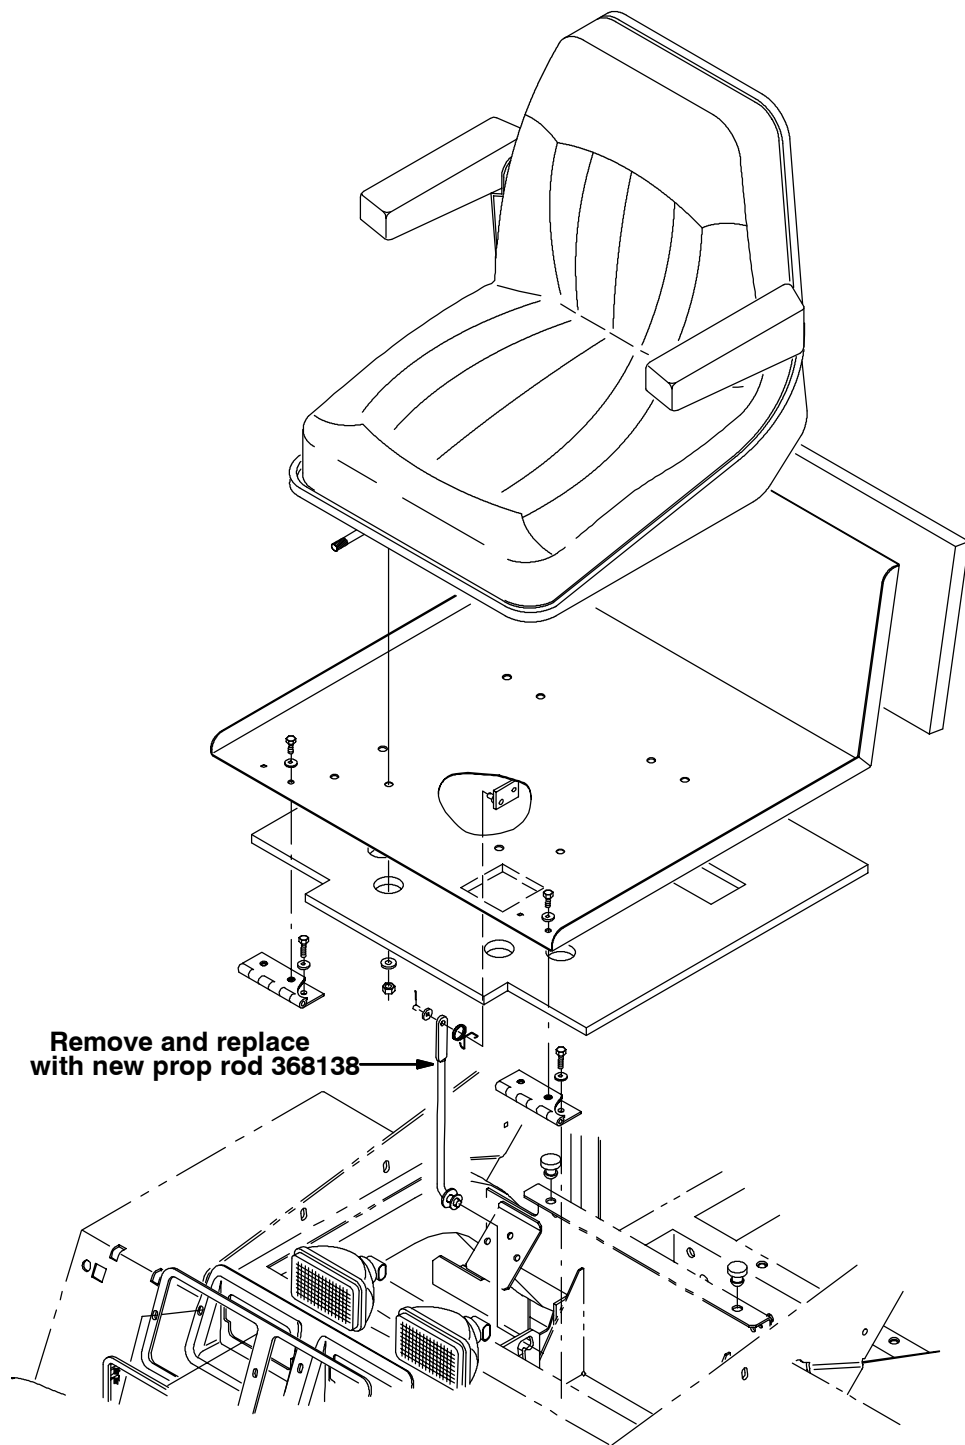

FIG. 1 - NEW SEAT PROP ROD INSTALLATION
(Refer to FIG. 1 thru 11)
1. Raise the operator's seat and locate the seat prop rod. (Refer to FIG. 1)
2. Remove the old seat prop rod, and replace with the new seat prop rod (16). (Refer to FIG. 1)